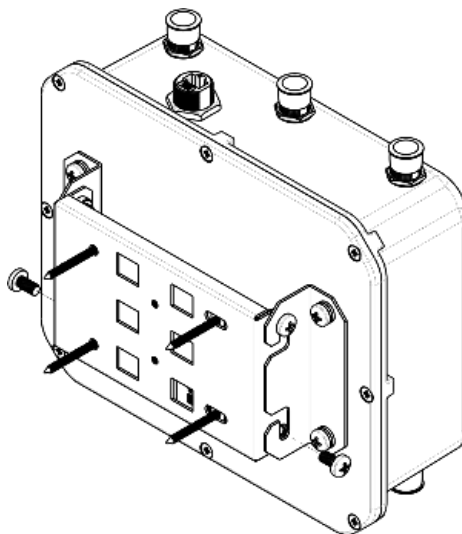

Figure 13 – Wall-mounting the device
- a) Install the device on the top untwisted screws of a bracket attached to the wall, see Figure 13.
- b) Install screws in the bottom bolthole, see Figure 13.